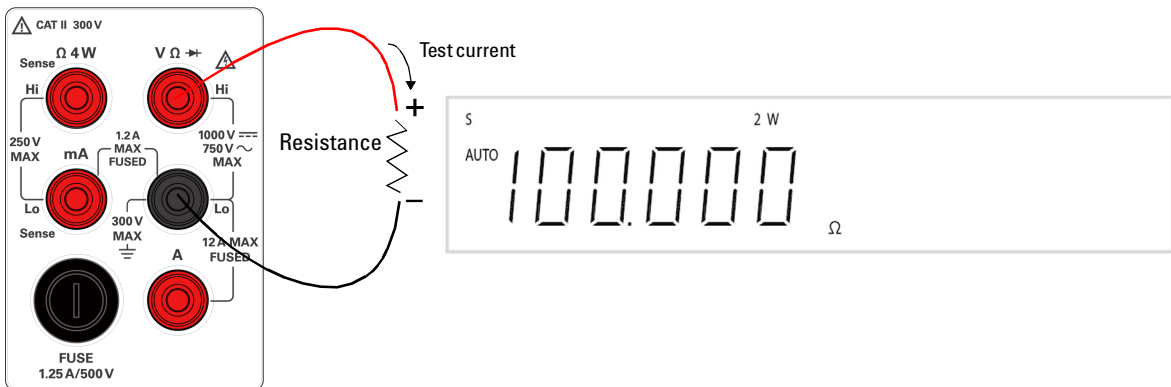
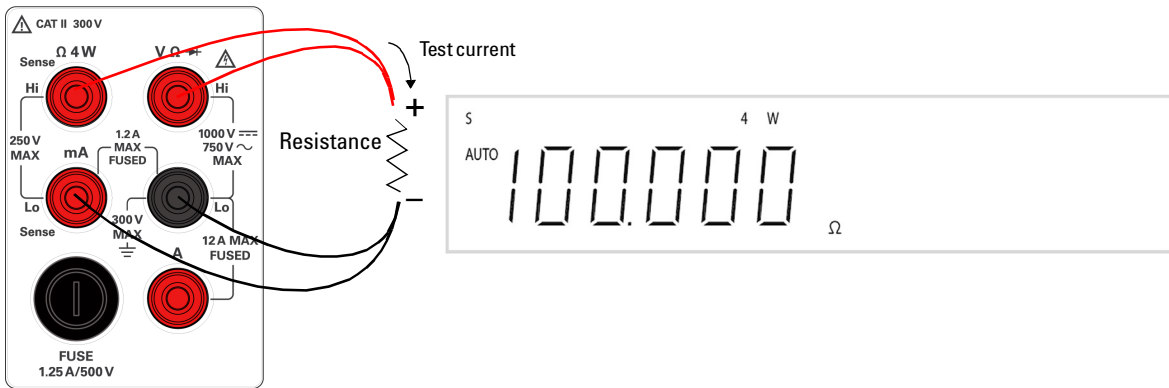

Figure 2-6 2-wire Ω terminal connection and display
Figure 2-7 4-wire Ω terminal connection and display
- 2 Connect the red and black test leads to the input terminal as shown in Figure 2-6 or Figure 2-7 respectively (according to the selected measurement method).